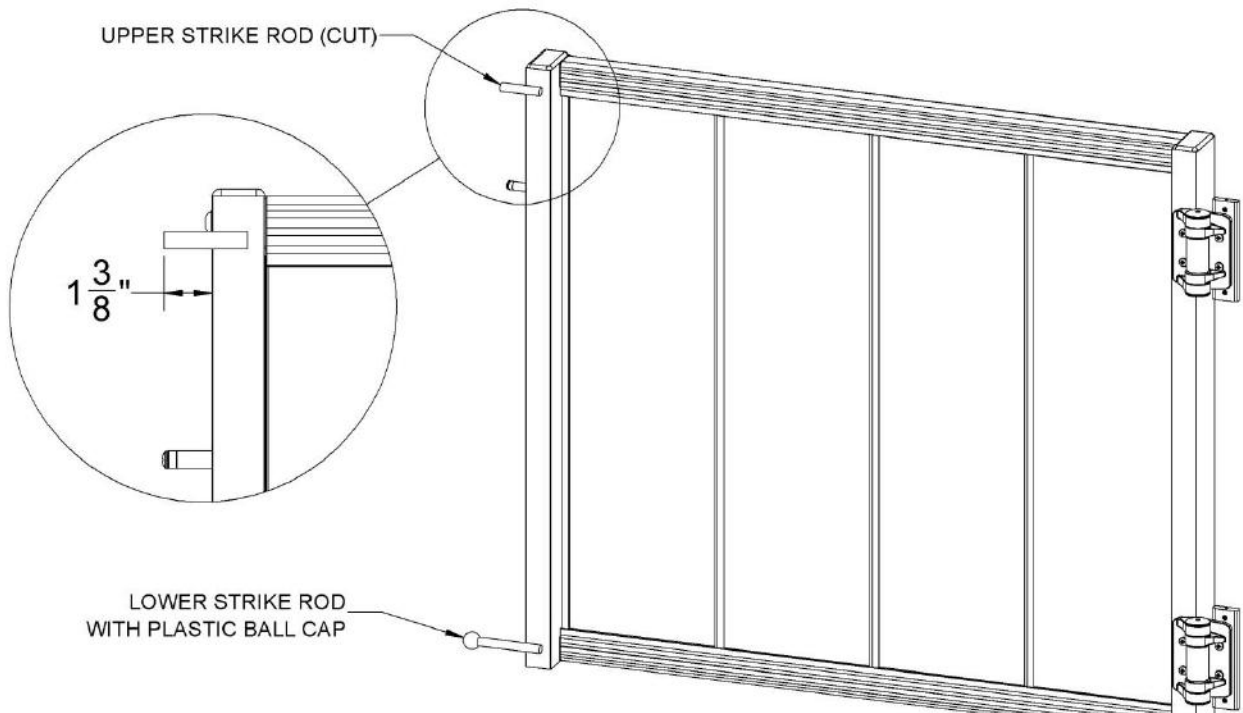

FIG. 9.9
- 9.5.2.2. Mark the upper strike rod 1-3/8" from the outside of the gate (FIG. 9.9).